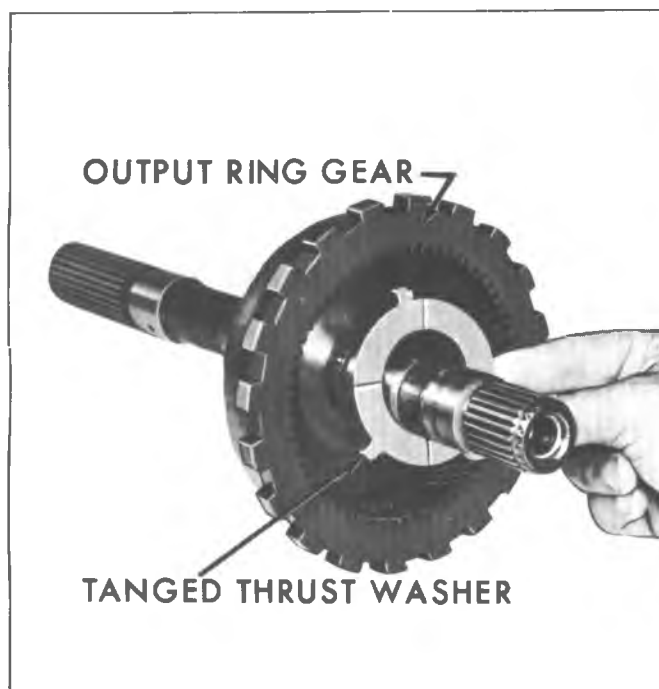

Fig. 7A-46B--Removing Output Ring Gear Torrington Bearing
19. Remove reaction carrier-to-output ring gear torrington bearing (fig. 7A-46B).